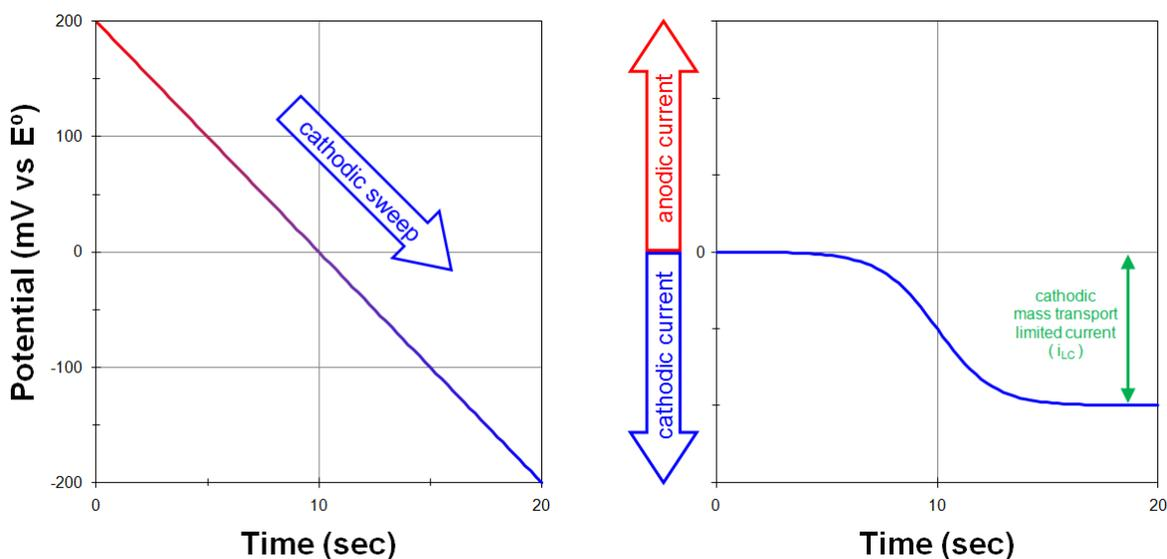

Figure 10.1: Response to a Potential Sweep (Cathodic) from a Solution Initially Containing only the Oxidized Form (O) with no Reduced Form (R)
Next, the electrode potential is slowly (20 mV/sec) swept in the negative (cathodic) direction (see Figure 10.1, left). As the applied potential approaches the standard electrode potential, a cathodic current is observed (see Figure 10.1, right). The cathodic current continues to increase as the potential moves past the standard electrode potential towards more negative potentials.
The cathodic sweep experiment described above (see Figure 10.1) applies to the case where the solution initially contains only the oxidized form (O) of the molecule or ion being studied. The opposite case yields similar results. Consider a solution that initially contains only the reduced form (R) of the molecule or ion being studied. The rotating electrode is initially poised at a potential that is about 200 mV more negative than the standard potential. At this potential, there is little or no current because there is nothing to reduce (the molecule or ion is already reduced), and the potential is not (yet) positive enough to cause any appreciable oxidation of the molecule or ion.